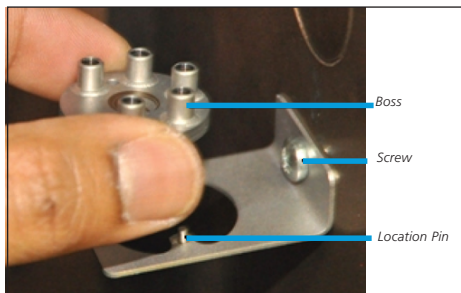

Figure 4. Attaching the Deans switch.
- i. Mount the SilFlow™ Deans' Switch to the oven bracket with the guidance of the locator pins ensuring it sits on the bracket firmly (Figure 4).